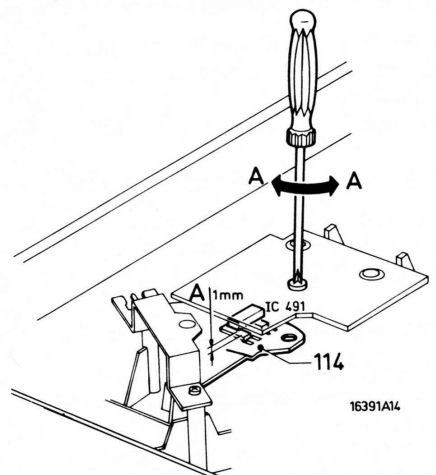

Fig. 5
2. Adjusting IC491 with respect to magnet (Fig. 5)
2. Instelling IC491 t.o.v. magneet (Fig. 5)